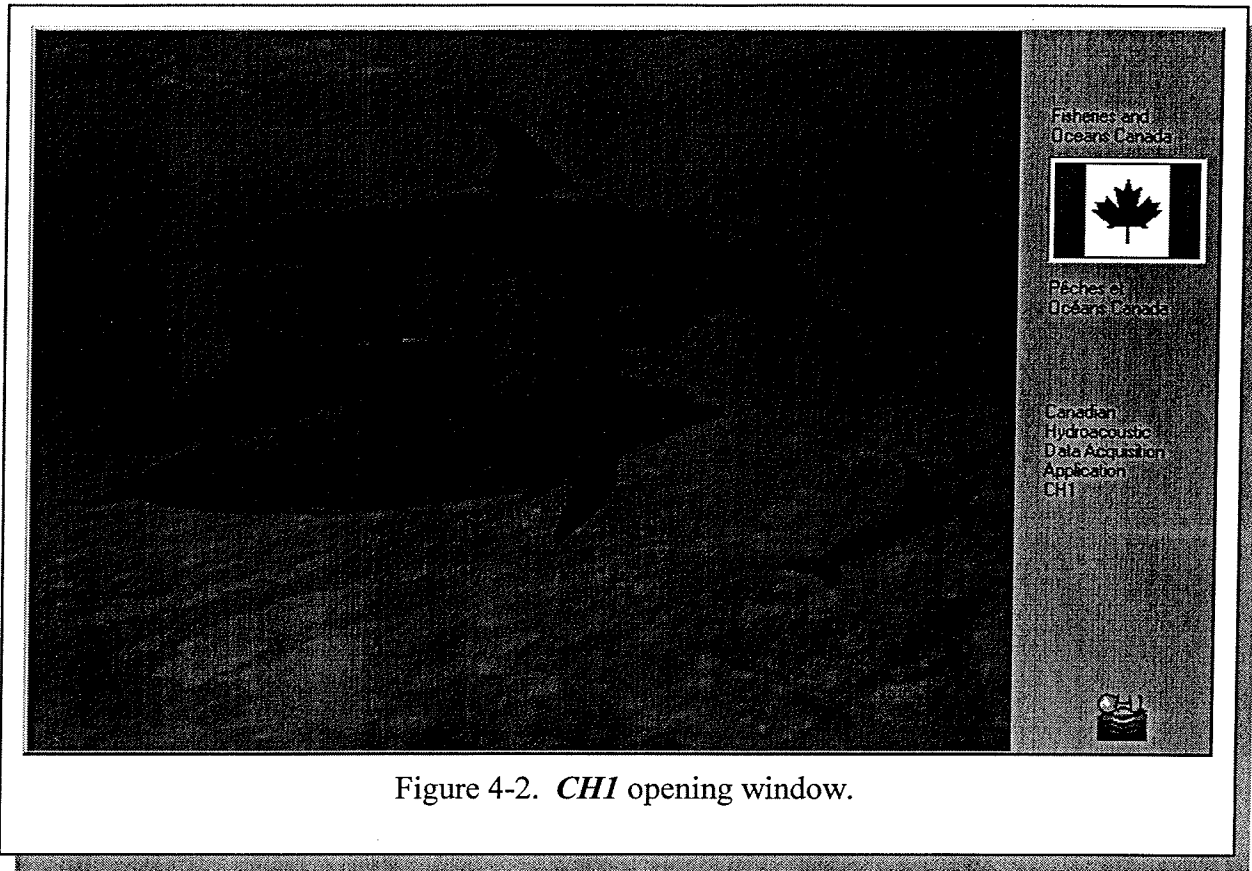
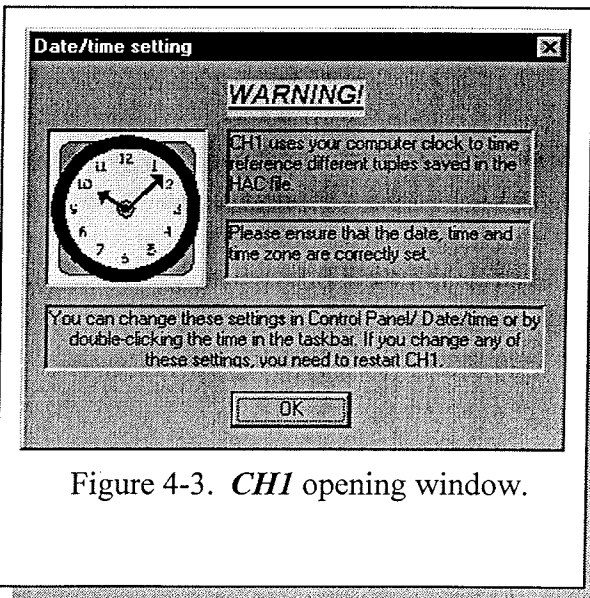

Figure 4-2. *CHI* opening window.
Figure 4-3. *CHI* opening window.
1. To start **CHI**, click the **CHI** icon. At the opening dolphin window (Figure 4-2.), click a dolphin to get the File / New dialog box (Figure 5-1.), which presents the three types of documents (i.e., data sources) that **CHI** presently handles. A warning is presented to advise you to check the Date/Time settings (Figure 4-3.).
At the start of *CHI*, the following window (Figure 4-2.) with four swimming dolphins is displayed. When you click on a dolphin, a warning message is displayed (Figure 4-3.) to inform